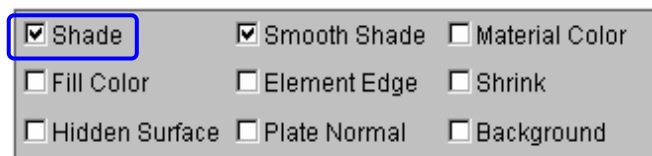

Figure 1.49 Display options
2. Toggle on the **Shade** checkbox in the display options illustrated in Figure 1.49. The **Smooth Shade** option is also toggled on by default to enable smooth and continuous model display.